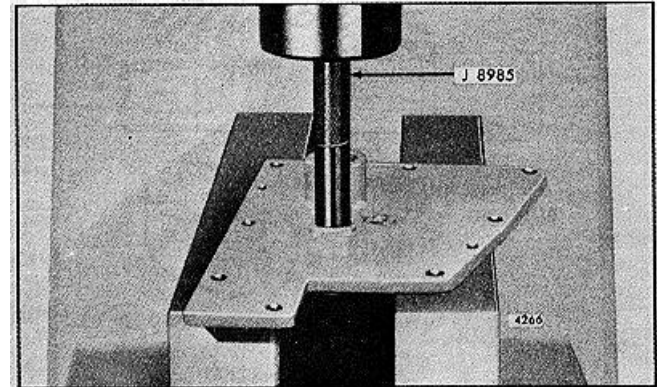

FIG. 10 - Removing Stop Lever Shaft Bearing or Bushings from Governor Cover using Tool J 8985
j. If necessary, remove the bushing from the stop lever shaft opening using remover J 8985 as shown in Fig. 10.